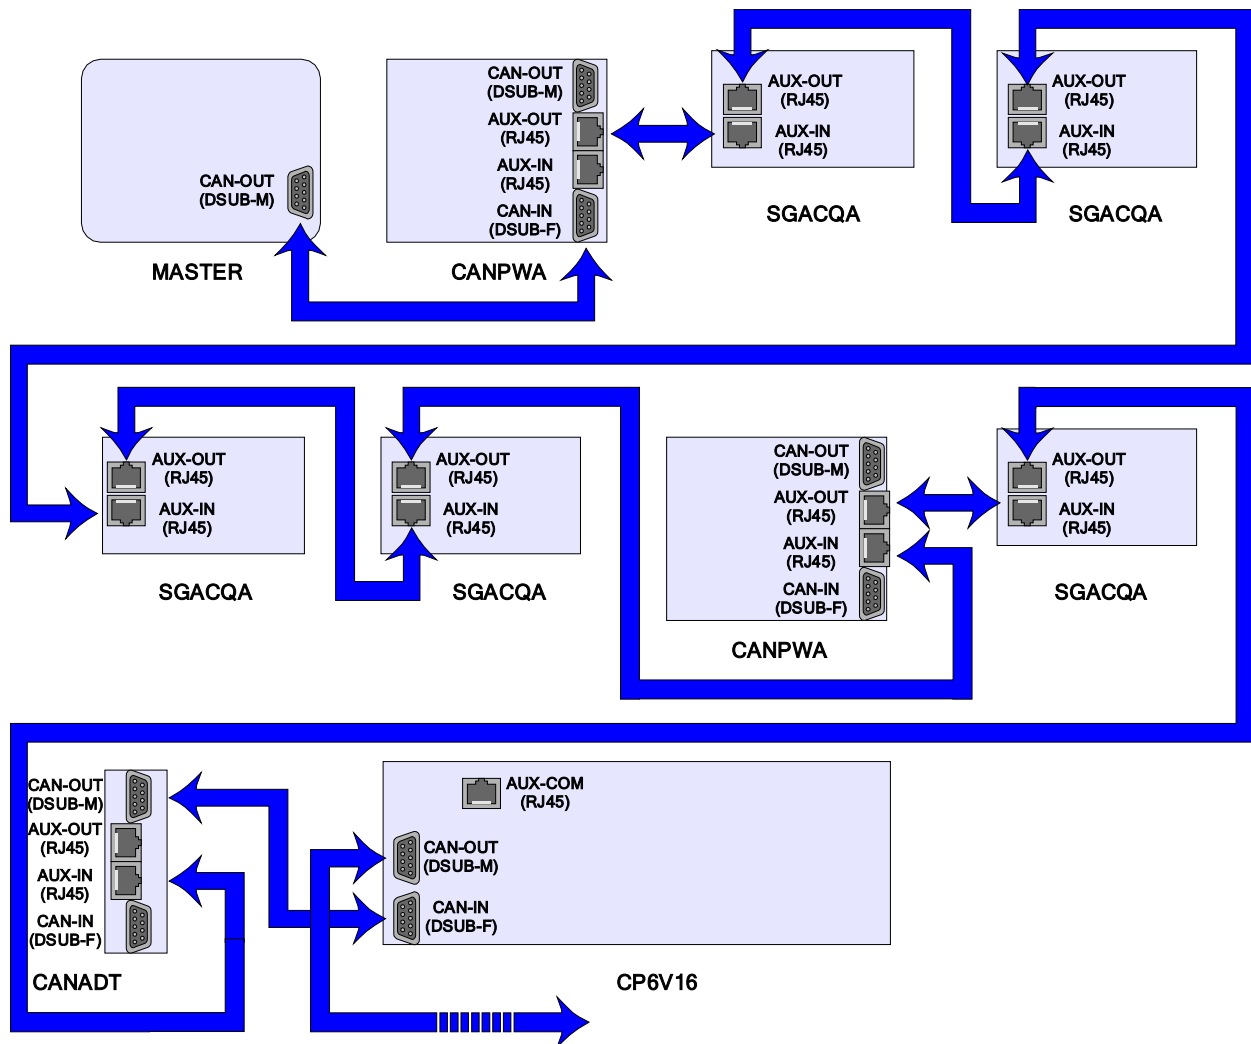

Fig. D.2 Industrial weigher
- **general industrial weigher**, in which more than two SGACQA may be powered from a general Master and with the help of the power supply unit CANPWA (described in the previous appendix) and if necessary an adapter card (Fig. D.2)
The figure D.2 and D.3 show all the possible ways of connecting a Master, SGACQA boards and power supply unit CANPWA.
The figure D.2 shows the application in which the SGACQA boards are connected without requiring shunts or stubs. They are powered by the power supply unit CANPWA as long as their number and the distances involved allow it (see below). As soon as the supply voltage is insufficient to power a SGACQA, a new power supply unit may be connected and other acquisition boards applied. A CP6V16 may also be connected through the card CANADT (appendix C).